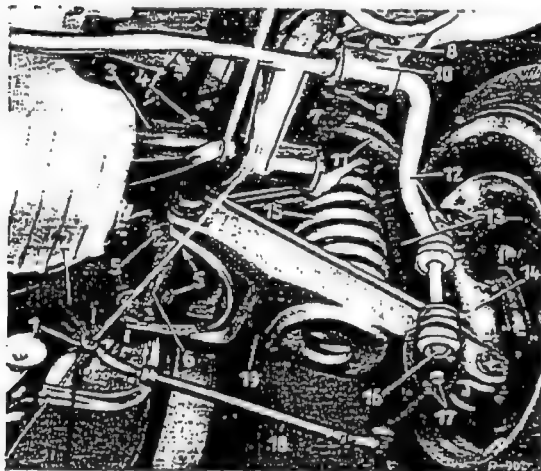

Fig. 32-4/1
4. Unscrew the two outer of the hexagon screws (5) for attaching the pivot pin (6) for the lower control arm (19) to the front axle support (2) (Fig. 32-4/1).